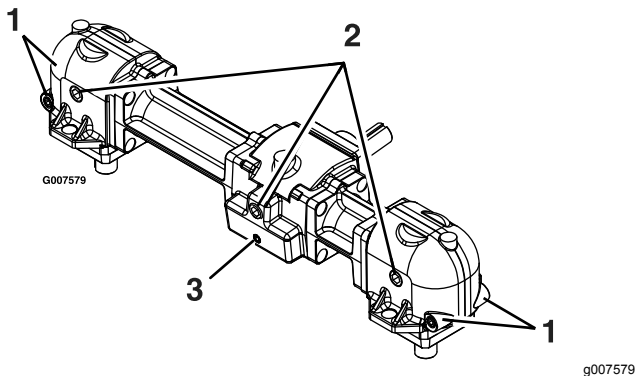

Figure 28
4. Remove the large oil drain plug on the front of each of the 3 gearbox sections and drain the oil (Figure 28).